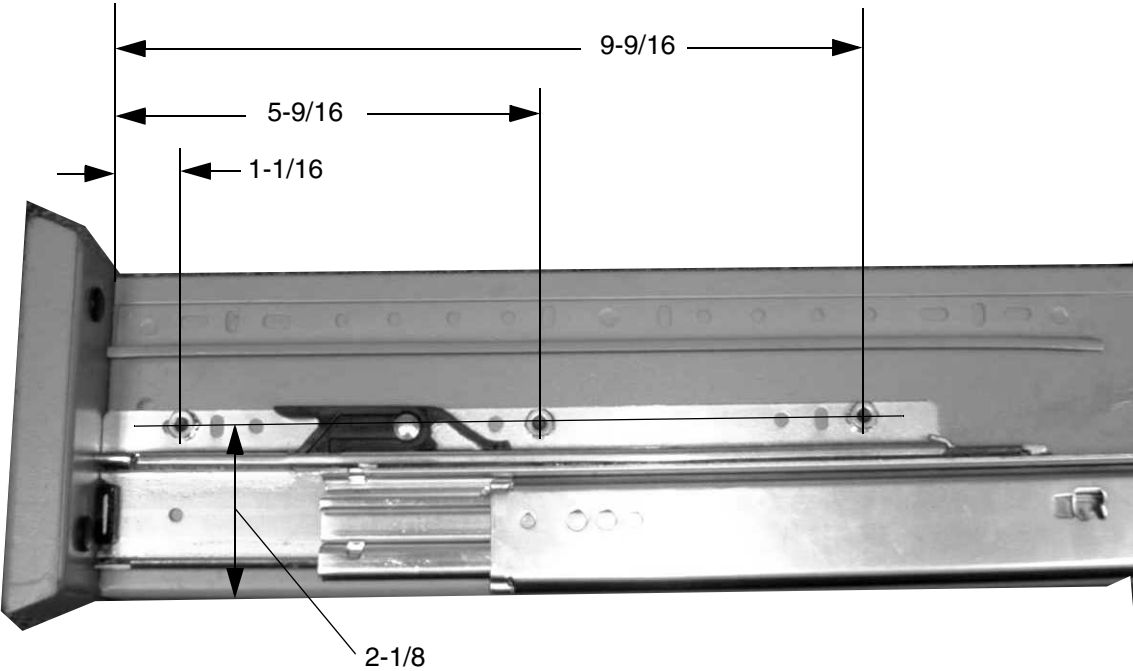

FIGURE 2. Drawer Rail Mounting Locations
5. Starting on either the right or left side of the drawer, measure back from the lip of the drawer front and mark a location at 1-1/16, 5-9/16, and 9-9/16 inches. See Figure 2.